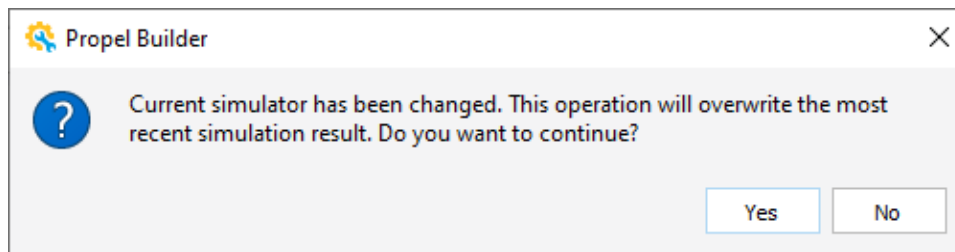

Figure 2.173. Remind for Simulation Tool Change
6. If there is a simulation tool change, make sure to generate simulation environment again. Otherwise, a dialog box pops up prompting you to make a choice of Yes or No (Figure 2.173).